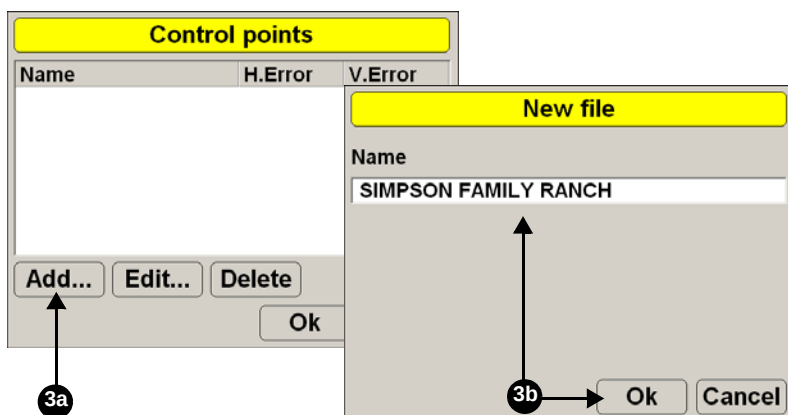

Figure 3-4. Press New and File Name
3. Press **New** and enter a name for the control point file, then press **Ok** (Figure 3-4).